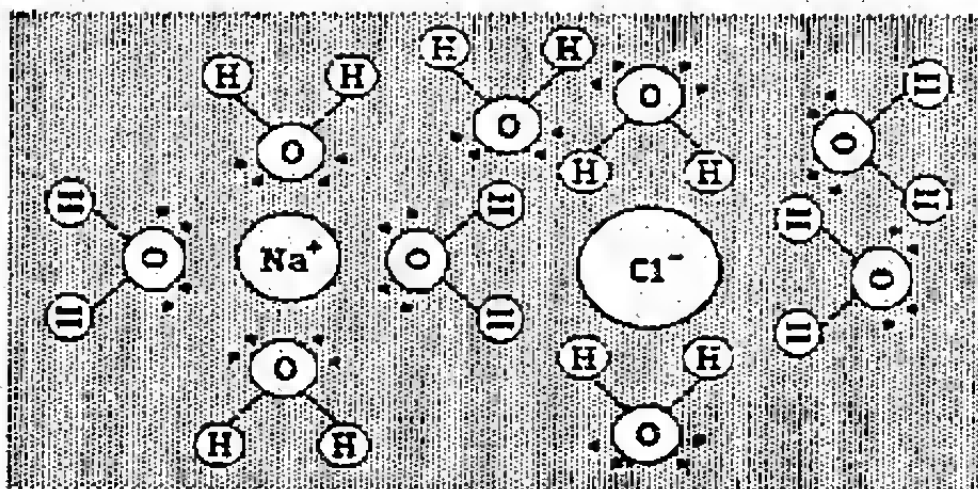

Figure 2:  $\text{Na}^+$  and  $\text{Cl}^-$  Hydration Sphere
water molecules. Since water molecules are polar (i.e., they have concentrations of "charge" on different parts of the molecule), they surround the individual sodium and chloride ions in such a way that they can still move through the solution, but do not recombine (this statement pertains to an unsaturated solution, which we shall discuss in greater depth in a future lesson.) Figure 2 shows how this might look if we could observe ions and molecules. This interaction between water molecules and ions is known as hydration. In this process, we see the "breaking" of ionic forces in the crystal, the breaking of hydrogen bonds in water and the formation of ion-dipole interactions in the solution.
4. How does  $\text{CaCl}_2$  exist in solution? (Hint: Figure 2).